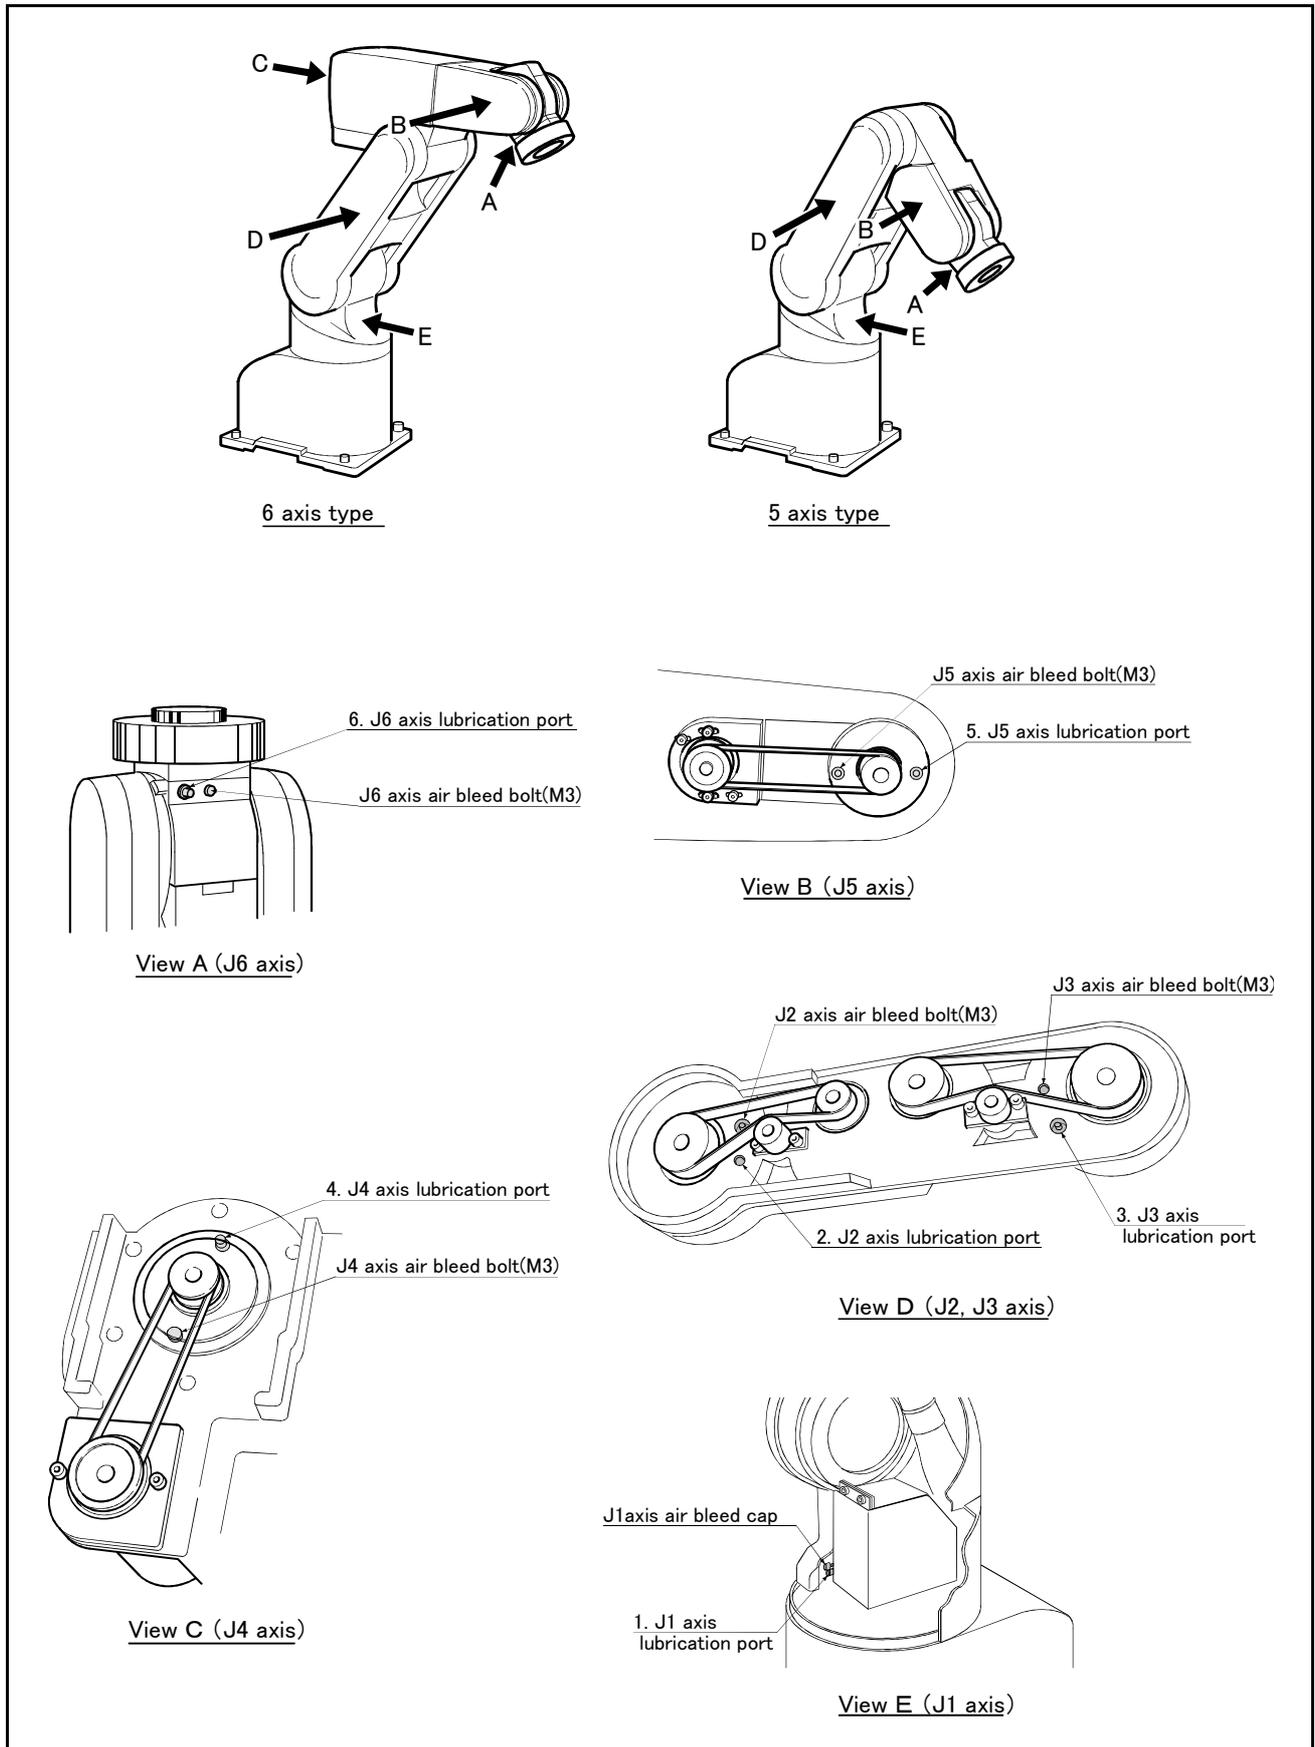

Fig.5-11 : Lubrication positions
The grease nipple position is shown in Fig. 5-11. The lubrication specifications for each place are shown in Table 5-5. Before lubricating, refer to "Fig. 5-4Installing/removing the cover (5-axis type)" on page 44 for the 5-axis type, and "Fig. 5-5Installing/removing the cover (6-axis type)" on page 44 for the 6-axis type, and remove the required covers.
- The numbers in the Table 5-5 correspond to the supply positions in Fig. 5-11.